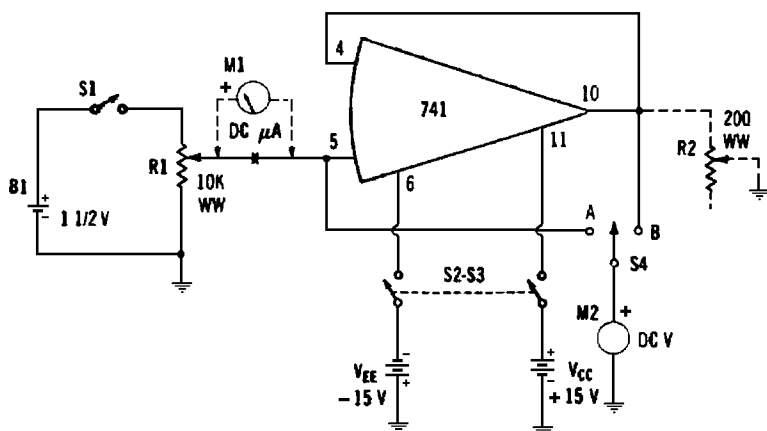

Fig. 2-23. Dc follower operation.
### Required Equipment (Fig. 2-23)
1. With switches S1 and S2-S3 open, switch S4 set to position A, and potentiometer R1 set to zero, set up the test circuit as shown in Fig. 2-23.